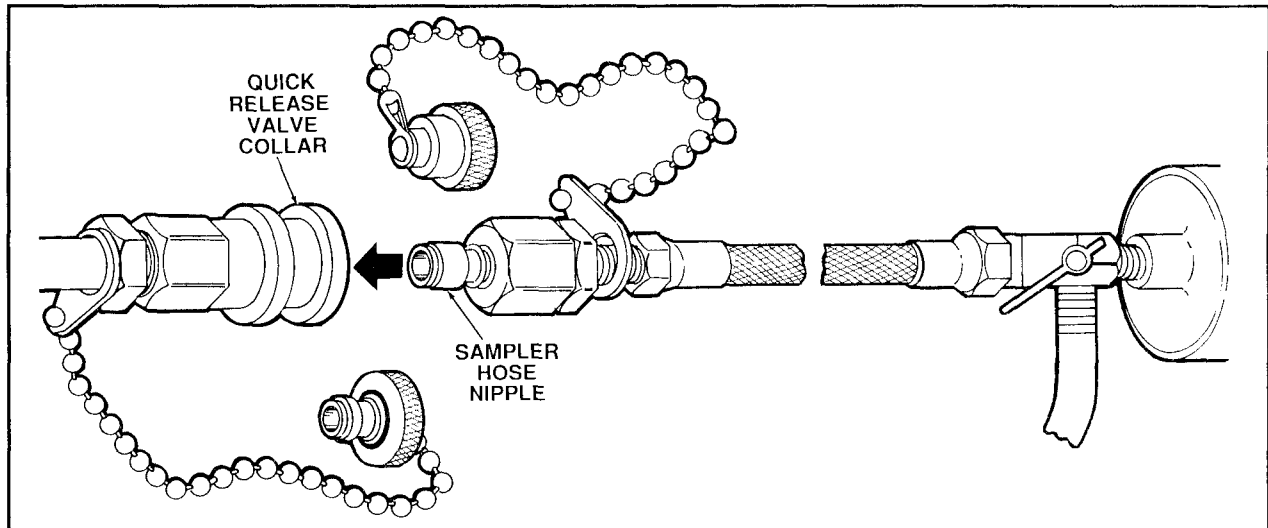

Figure 2.33 Inserting Sampler Hose Nipple into Sample Valve Collar
- c. Insert the sampler hose nipple into the quick-release valve collar (Figure 2.33): retract the valve collar and insert the nipple firmly into the valve. Release the collar when the nipple is seated.